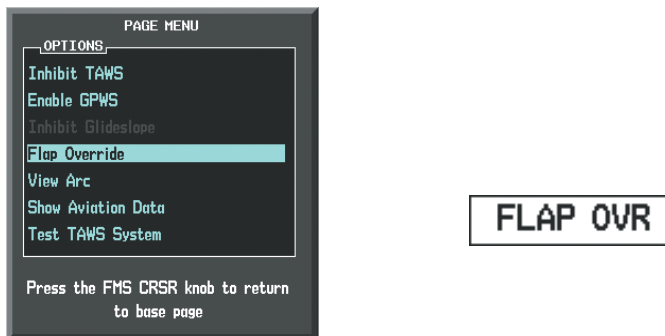

Figure 6-150 TAWS-A Page Menu and FIT Flap Override Annunciation
- 1) Press the **MENU** Key. (Figure 6-150)
When the Flaps Override option is enabled, the annunciation 'FLAP OVR' is annunciated on the PFD and on the TAWS-A Page of the MFD (Figure 6-150). If GPWS alerts are also inhibited (which include FIT), the 'FLAP OVR' annunciation is not shown.